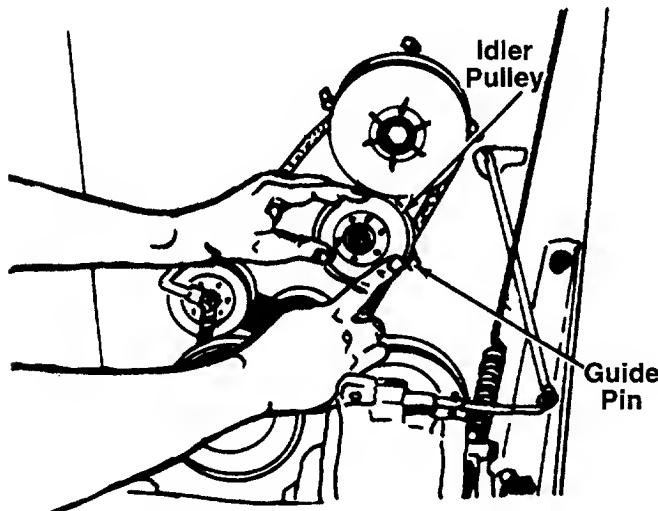

FIGURE 22.
11. When sliding the idler pulley on the idler bracket, be certain the belt is between the pulley and guide pin. See figure 22.